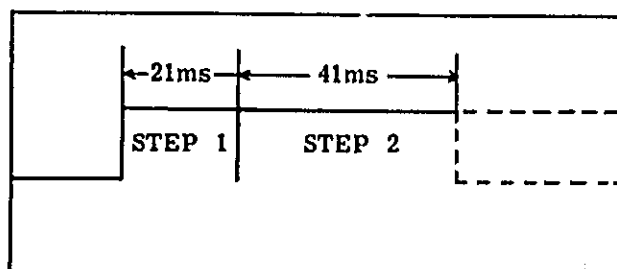

Figure 8-26. STEP 1 and 2 Signals.
- (iii) Measuring Cycle is stopped at STEP 2 or beyond (Refer to Figure 8-26). Check A15 board.